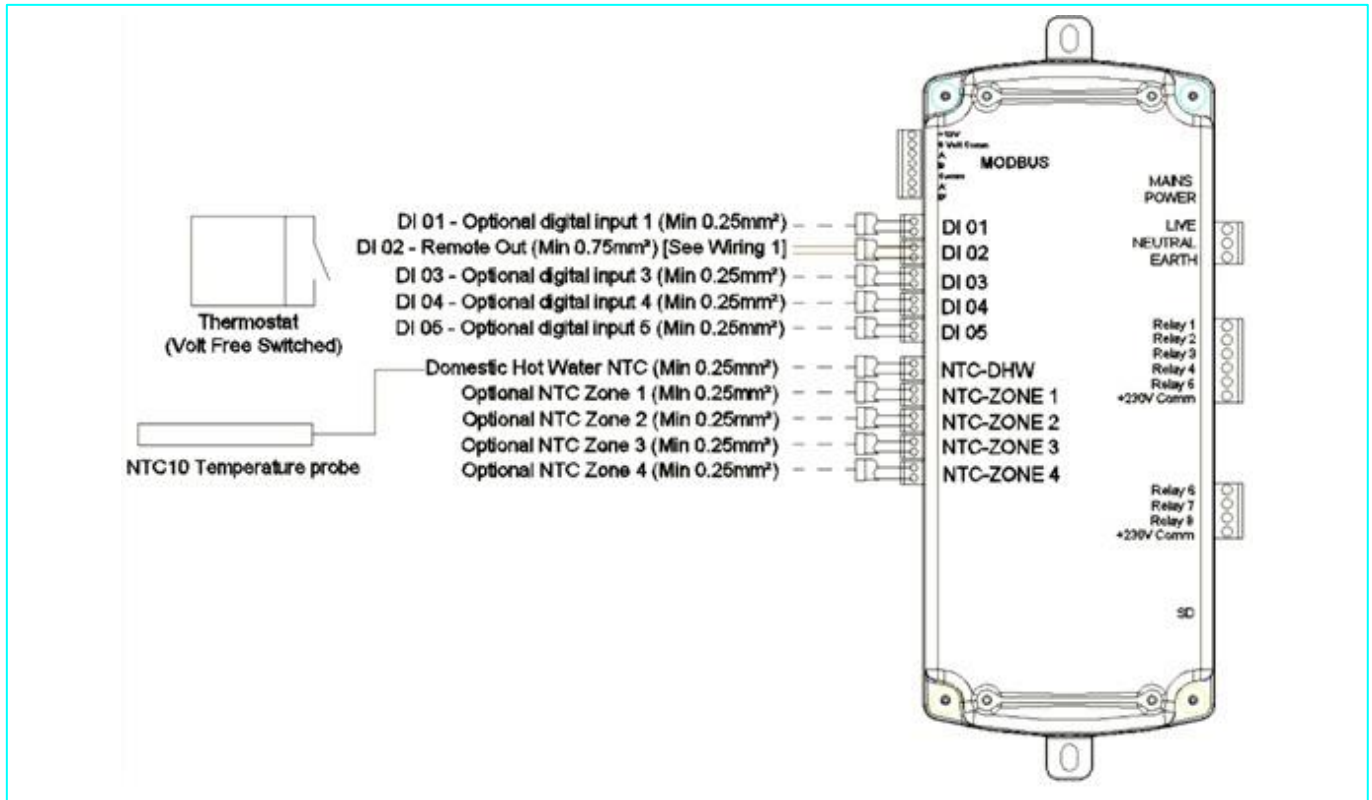

Figure 11: Digital Inputs & Temperature Sensors
- Temperature sensors and digital inputs can be connected to the PCB, 5.8.4 (DI 01-05), (NTC-DHW and NTC-Zone 1-4). See Figure 11.